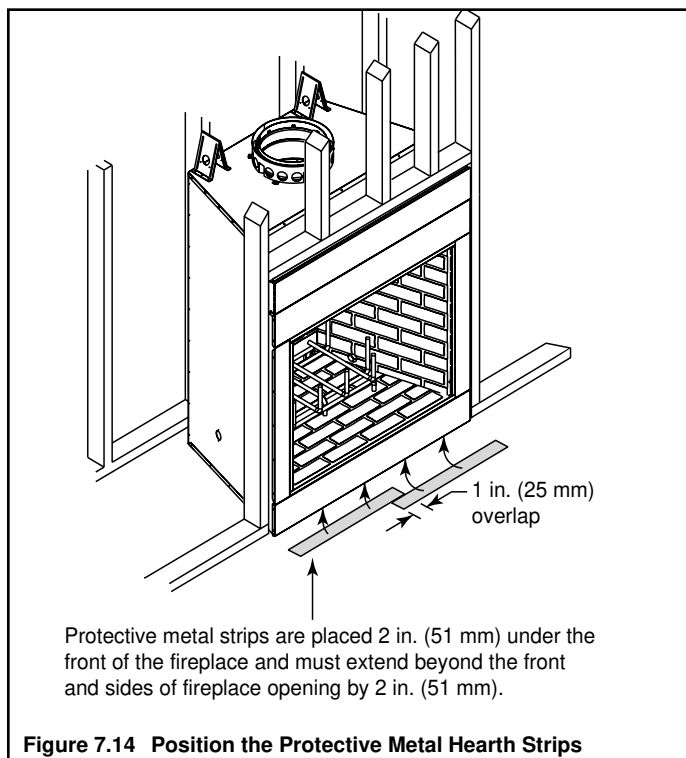

Figure 7.14 Position the Protective Metal Hearth Strips
- Refer to Figures 7.14 and 7.15.